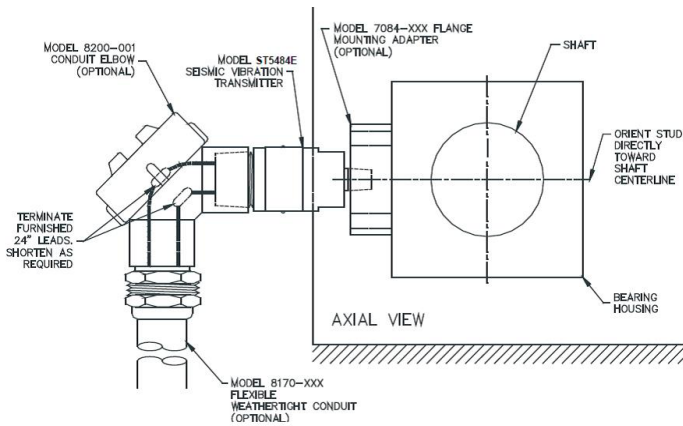

Figure 3
The ST5484E measures seismic vibration (i.e., vibration velocity) at the attachment point on the machine, using engineering units of in/s (inches per second) or mm/s (millimeters per second) depending on the selected ordering option. The transmitter’s sensitive direction is through the long axis of its cylindrical body. It will not measure side-to-side motion. Typical transmitter mounting for casing vibration measurements is in the horizontal direction at the bearing housings as depicted in Figure 2. The horizontal direction usually incurs more vibration because most machines’ foundation constrains vertical vibration more than horizontal vibration. A horizontal mounting arrangement is also depicted in Figure 3, but with additional detail showing typical accessories. When flying leads are ordered, a 24- or 72-inch length may be specified using ordering option D on the Metrix product datasheet 1004457. These leads may be cut to length and then spliced to field wiring as shown in Figure 3.
**NOTE:** Hazardous area locations do not allow a splice at the location shown in Figure 3. Instead, the splice must be made in a second conduit hub (meeting splicing requirements) located at the end of flexible conduit.